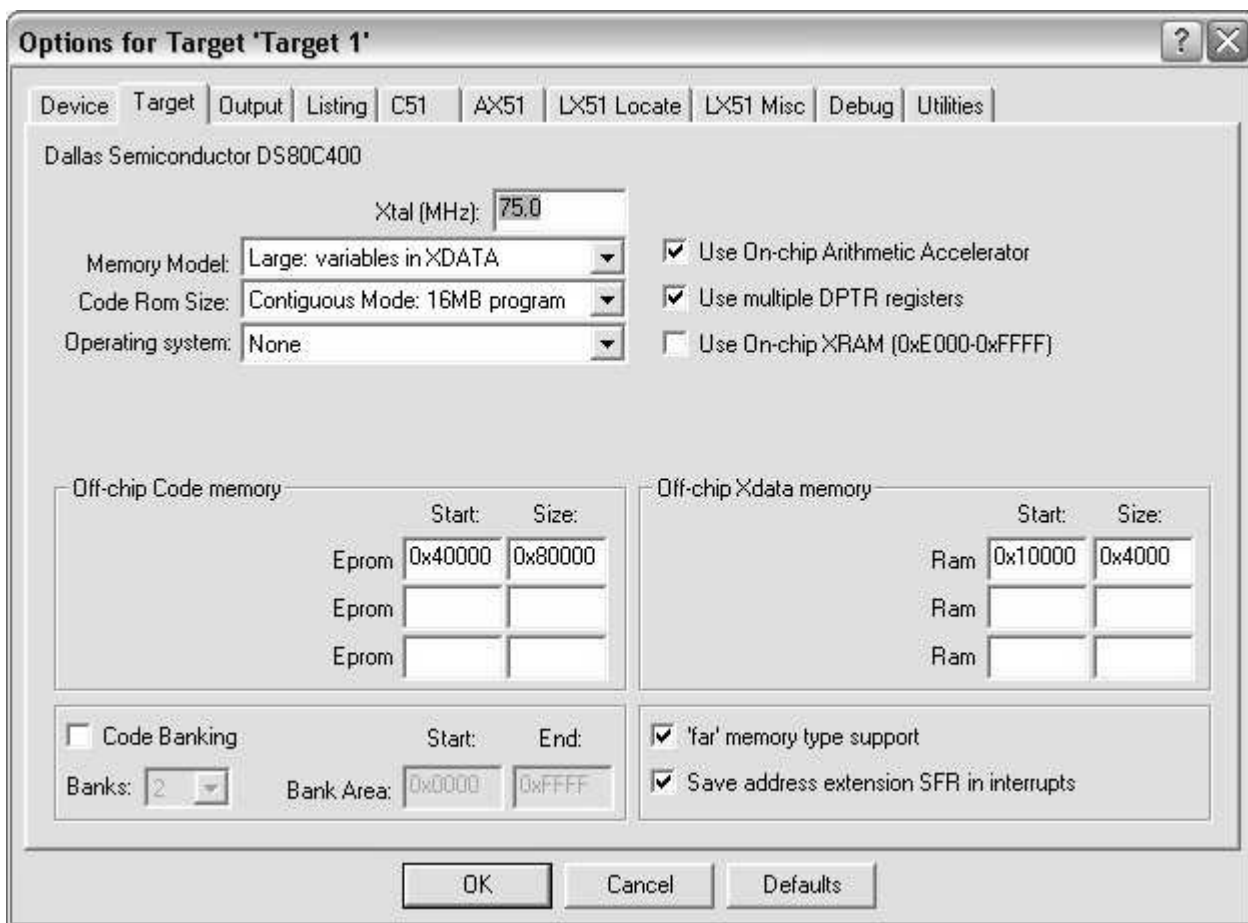

Figure 2, Options for Target Dialog from Step 7 (note that 'Eprom:Start' does not display the last '0' in 0x400000)
- Right click on *Target 1* on the left, and select *Options for target 'Target 1'*. An option dialog will appear. The first tab selected should be *Target*. Change *Memory Model* to **Large: variables in XDATA**. Change *Code Rom Size* to **Contiguous Mode: 16MB program**. Select the check boxes for *Use On-Chip Arithmetic Accelerator*, *Use multiple DPTR registers*, *far memory type support*, and *Save address extension SFR in interrupts*. Under *Off-chip Code memory*, add the first entry with a *Start* of **0x400000** and *Size* of **0x80000**. For *Off-chip XData memory*, add an entry with a *Start* of **0x10000** and a *Size* of **0x4000**. Figure 2 shows this dialog after it has been configured.